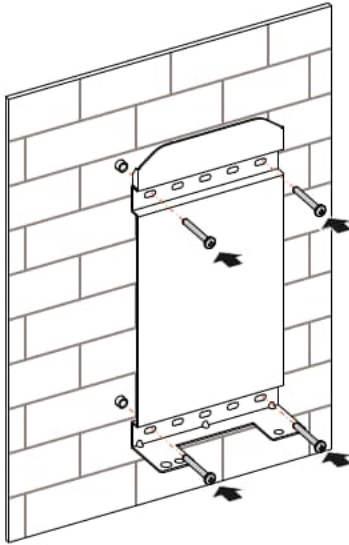

Figure3-9 Fasten the installation holder
Step 4 Align the holes of installation holder with the expansion plugs and install the self-tapping screws and flat gasket into the expansion plugs (as shown in Figure3-9) and fasten them by screwdriver.